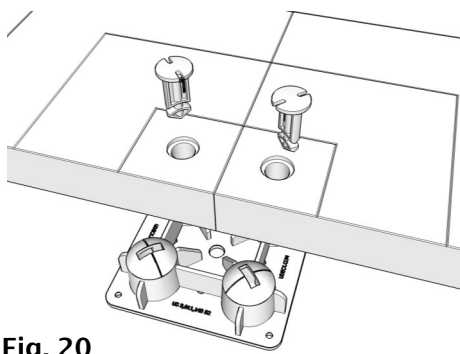
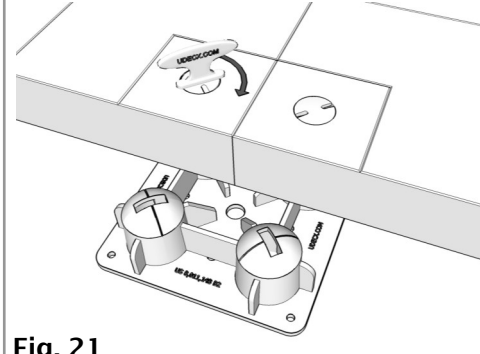

Fig. 20
Fig. 21
Insert 4 Cam Locks (C) into the cam ways in the Pad (B) (Fig. 20) and lock them using the Lock Tool (E). (Fig. 21)